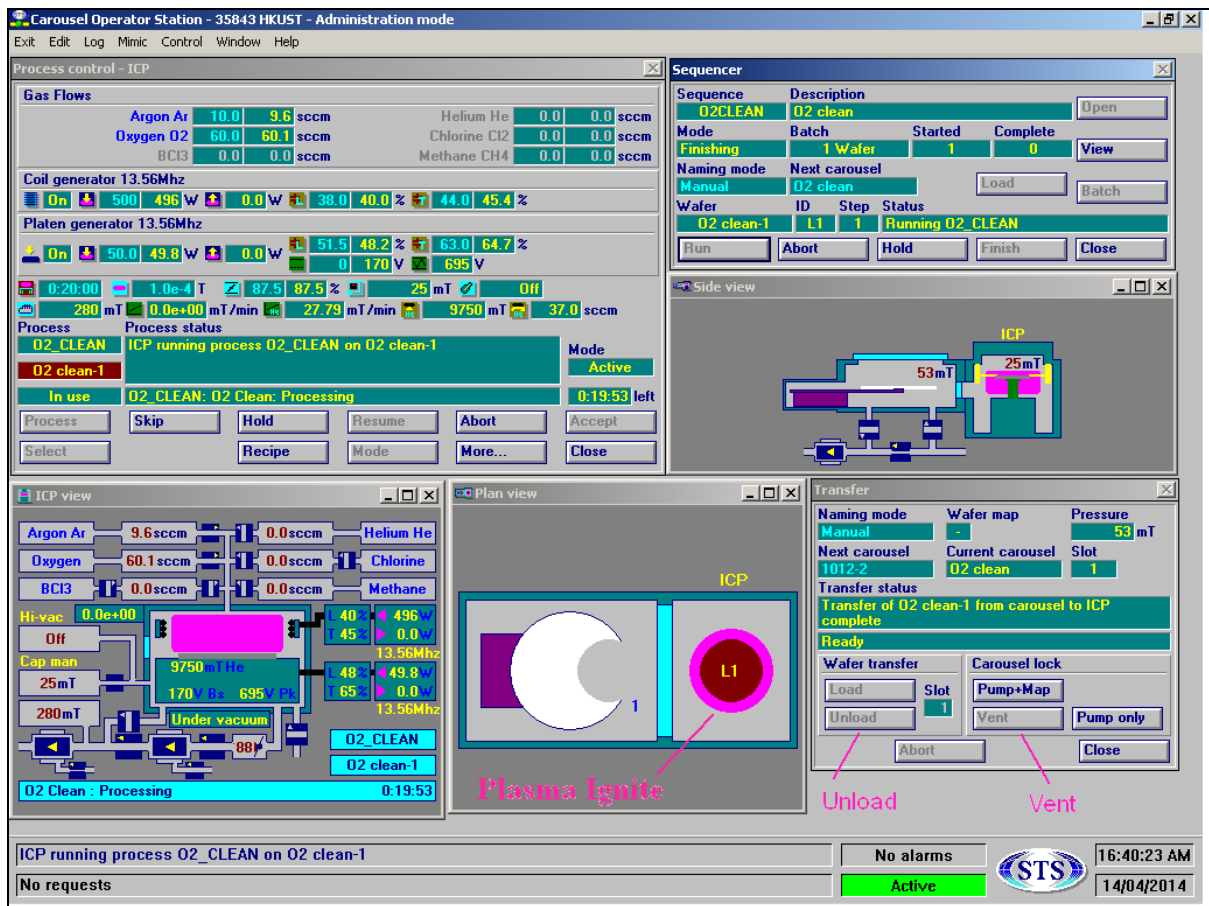

Fig. 26 Plasma ignite
5) Etching: RF power will be given out, and RF matching unit start to match the impedance inside the chamber. Effective RF matching can minimize the reflected power, and increase the forward power until it reached the set point, then plasma ignite, and you can observe the plasma light through the side viewports of the equipment or in the screen (Fig. 26).